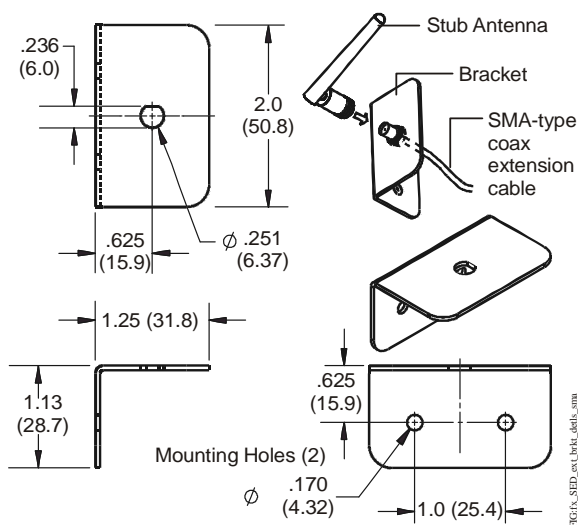

Figure 8: Extension Cable and Antenna Mounting Bracket Dimensions, in. (mm)
- Any other tools needed for mounting the antenna bracket. See Figure 8 for bracket details.
2. Mount the antenna bracket within reach of the 6.56 ft (2 m) SMA-type coax extension cable. Figure 8 shows the bracket details and dimensions.